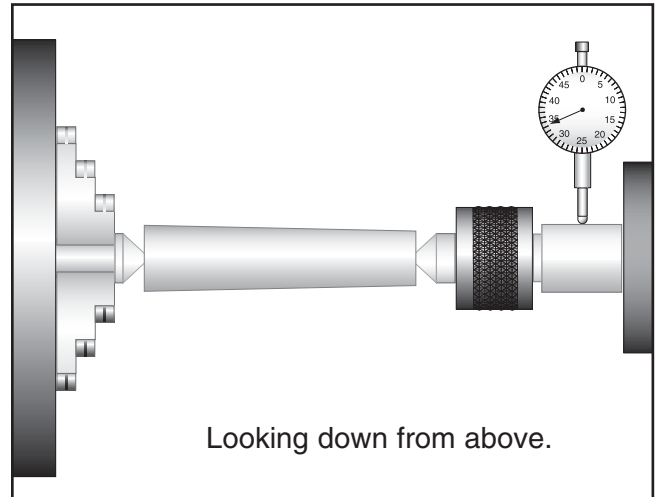

Figure 40. Adjusting for tailstock end taper.
- If the stock is thinner at the tailstock end, the tailstock needs to be moved away from the operator by at least the amount of the taper (**Figure 40**).